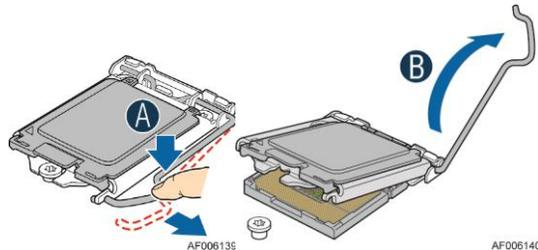

Figure 30. Installing Processor – Open the Socket Lever
2. Open the socket lever; see *Figure 30*.